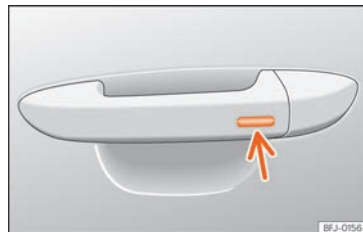

Fig. 92 Door handle: sensor surface.
• Press and hold the locking sensor surface »» Fig. 92 (arrow) on the door handle to close the sunroof. If you release the sensor surface, the closing movement stops.